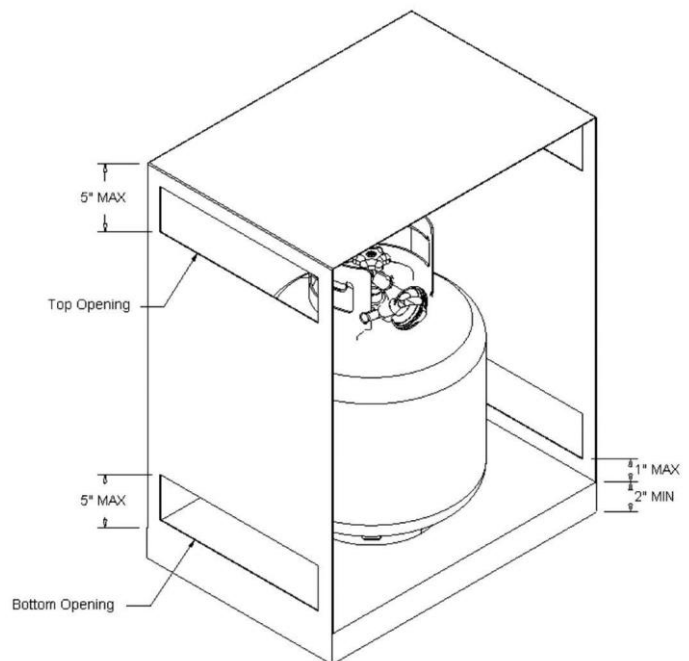

Figure 6.1 – Top and bottom side ventilation openings for LP tank enclosure.
- At least two ventilation openings shall be provided in the side walls of the enclosure, located within 5 inches (127mm) of the top of the enclosure, equally sized, spaced at a minimum of 180 degrees, and unobstructed. The opening(s) shall have a total free area of not less than 1 in2 lb. (14.2 cm2kg) of stored fuel capacity. See Figure 6.1.